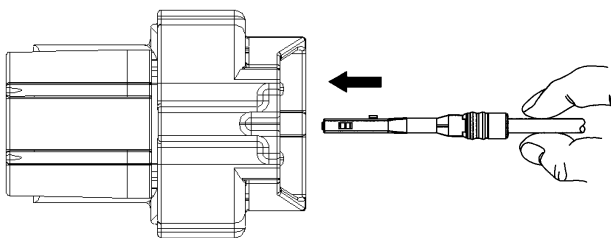

Figure 1
- See the image above for the correct direction. (See figure 1)